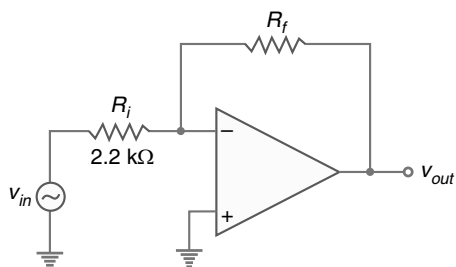

Fig. 23.49
**Example 23.25.** Given the OP-amp configuration in Fig. 23.49, determine the value of  $R_f$  required to produce a closed-loop voltage gain of  $-100$ .